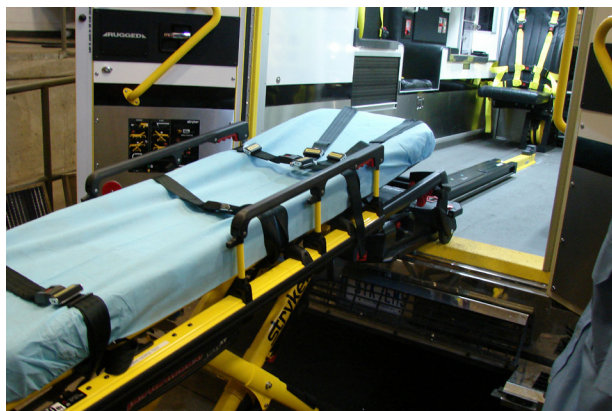

Figure 36
5. Push the cot into Power-LOAD until the cot load wheel pins lock into position as shown in Figure 36. Ensure that the cot is aligned with the lifting arms when loading.